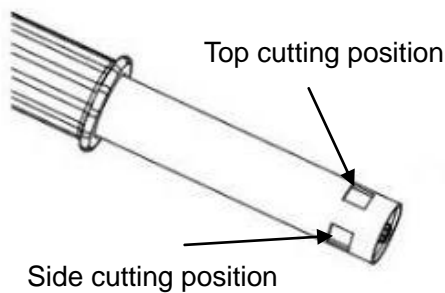

Fig.3B
4. The hedge trimmer can be attached in either the top cutting position or the side cutting position. Choose the suitable position for the working task (Fig.3B).